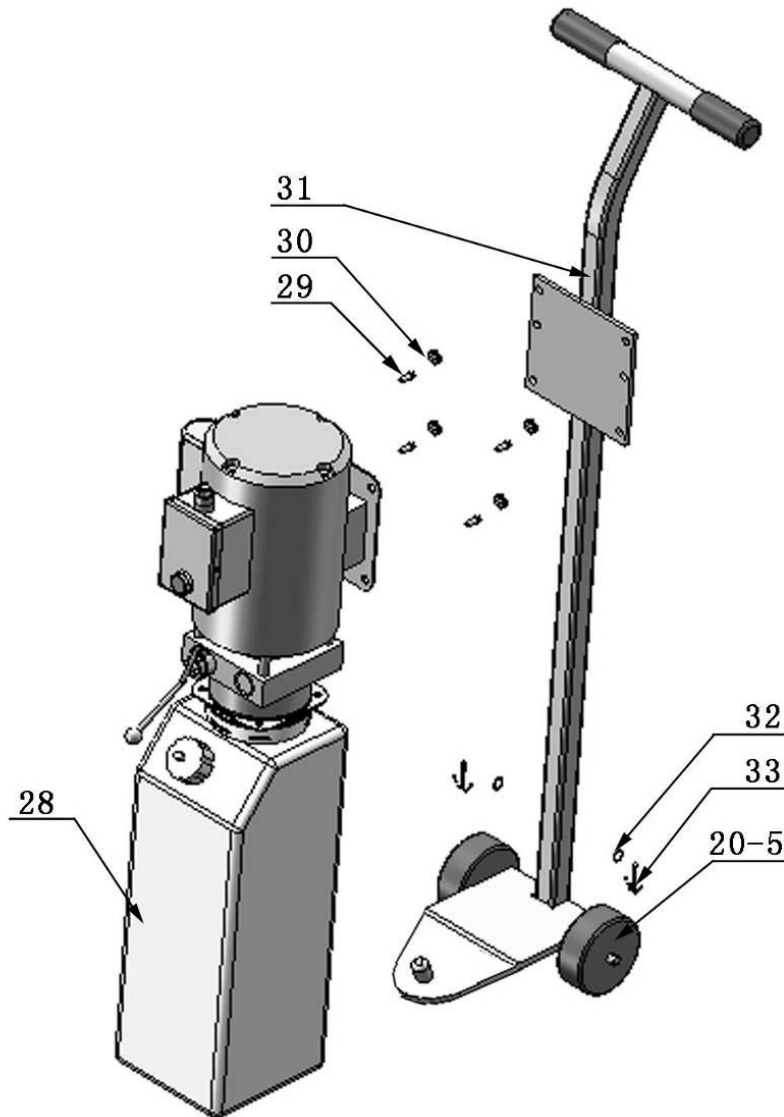

Fig. 6
B. Install hydraulic power unit (See Fig. 6)